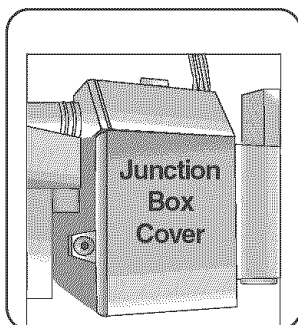

Figure 14
- 1 Remove junction box cover (see **Figure 14**) by lifting the junction box cover up and off.